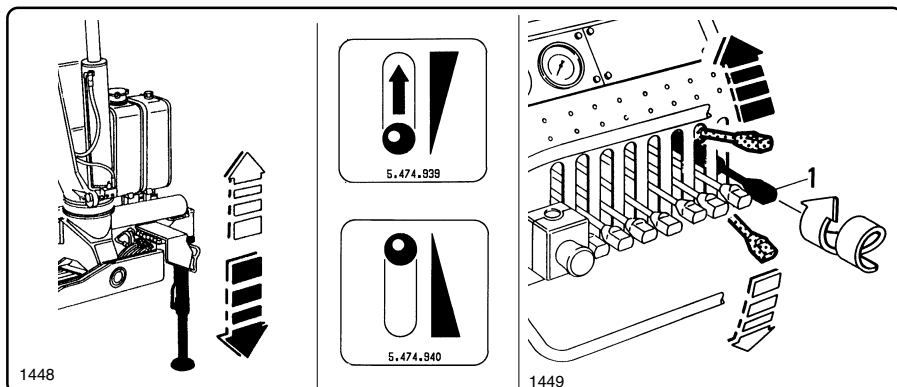

fig. 6.7.4
- *Lever switch in pos. "3" fig. 6.7.4 (rest position).*
- Leva deviatore collocata in pos. "4" fig. 6.7.4.
- *Lever switch in position "4" fig.6.7.4.*